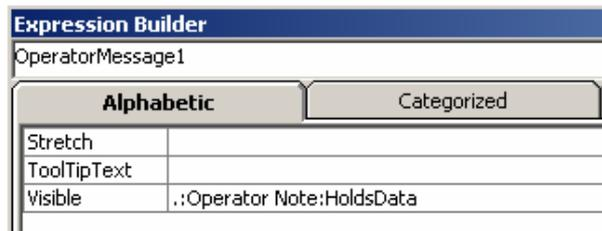

Figure 118. Connection of the property Visible
12. Select the **OperatorMessage** icon and use **Expression Builder** to connect the **Visible** property to the variable **Operator Note:HoldsData**. See Figure 118.